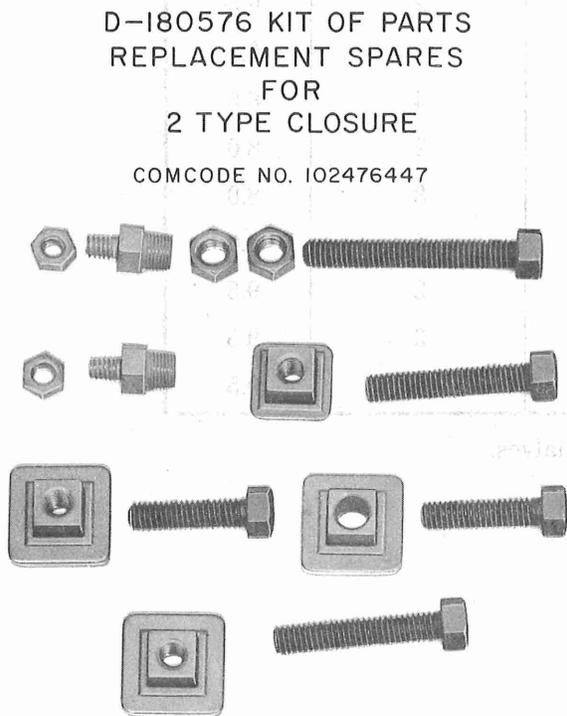

Fig. 2—Spare Parts Kit D-180576
- (f) **Spare Parts Kit D-180576 (Fig. 2):** Replacement parts for 2-type closure.